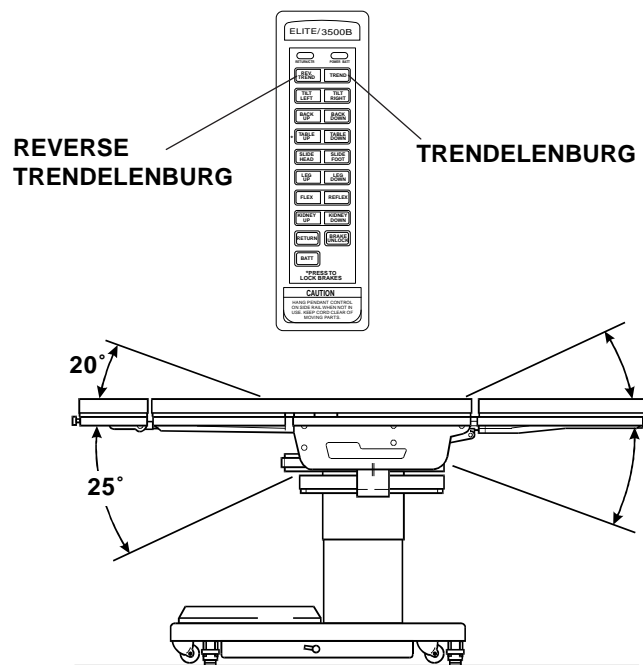

Figure 3-7. Trendelenburg Positioning
b. Trendelenburg. To place the surgical table in a Trendelenburg (head down) position, press the TREND button (figure 3-7). Trendelenburg positioning of up to 25° may be obtained. To place the table in a reverse Trendelenburg (head up) position, press the REV TREND button. Reverse Trendelenburg positioning of up to 20° may be obtained.